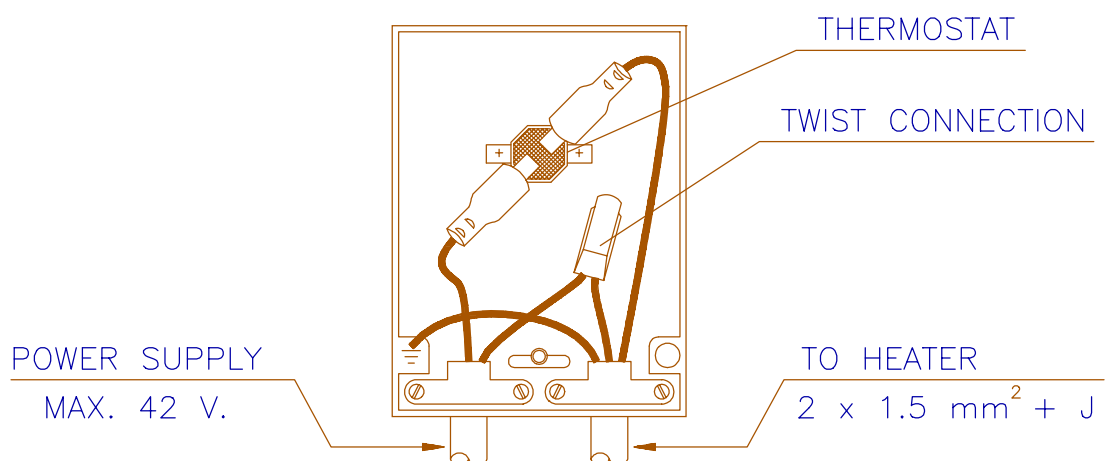

FIG. 12
- If the new heater element does not work, check the thermostat and replace if defective. See wiring diagram inside the thermostat box, Fig. 12.